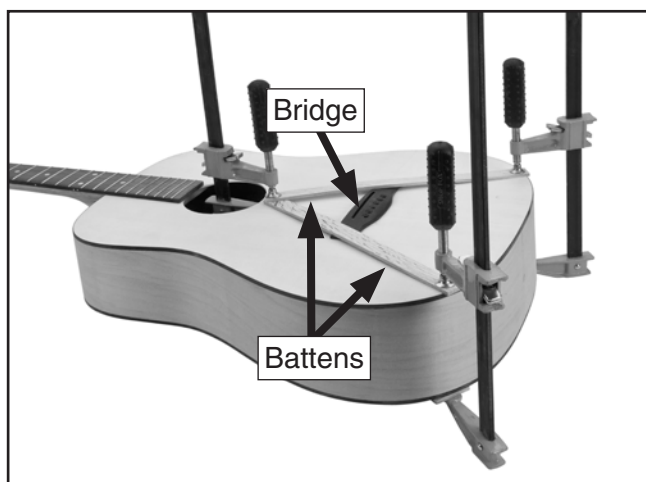

Figure 14. Gluing the bridge to the body.
- Using 2 flexible battens, clamp the bridge in place overnight, as shown in **Figure 14**.